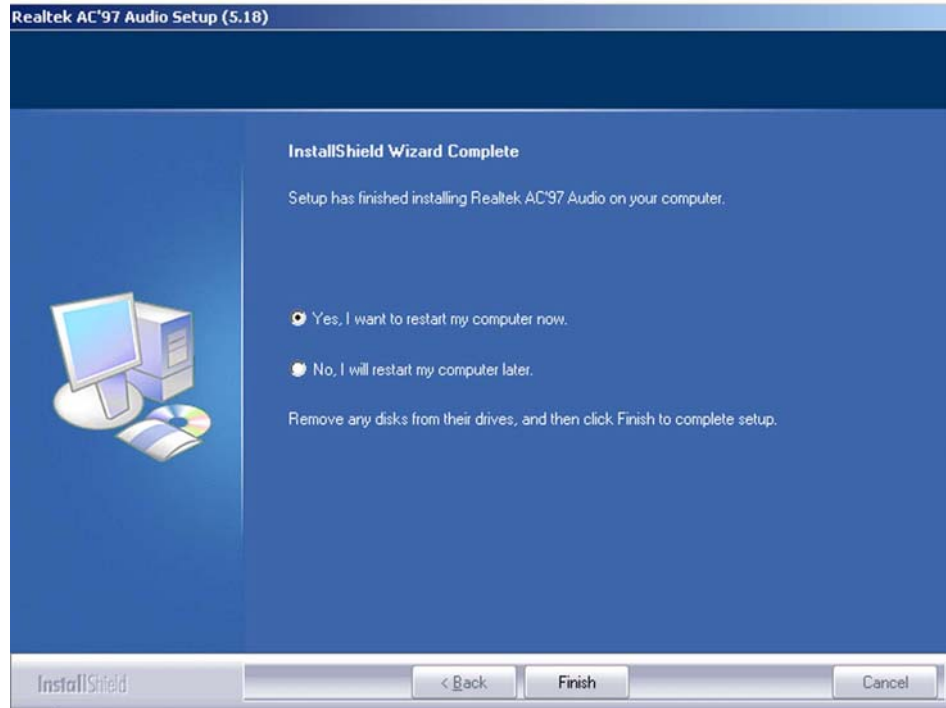

Figure 6-18: Audio Driver Installation Complete
Step 9: After the driver installation process is complete, a confirmation screen shown in **Figure 6-18** appears.
Step 10: Select when the system should be restarted, now or later. (see **Figure 6-18**)